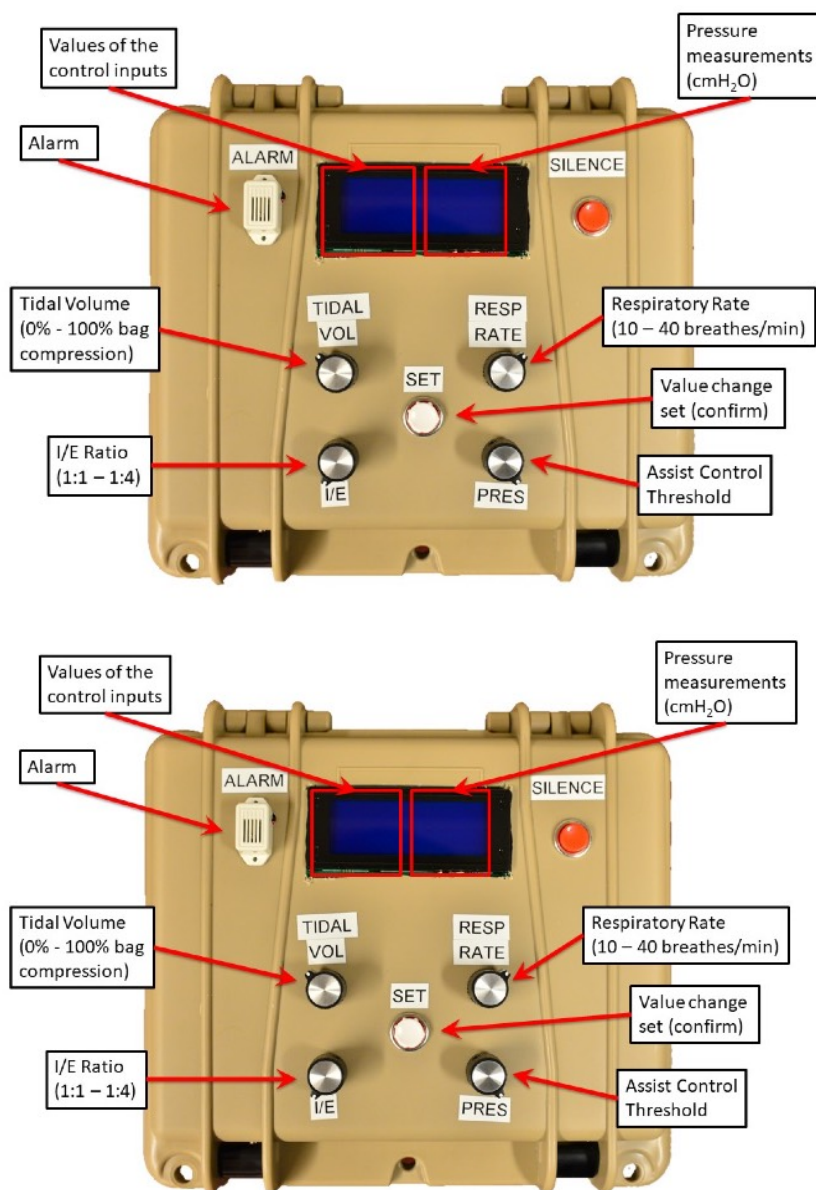

Figure 2. Control the ventilator and read pressure information from the top of the control box.
3. Ensure that all dials shown in Figure 2 are turned counter clockwise to the lowest position.
6. Set the desired *Respiratory Rate*, *Tidal Volume* and *I:E* knobs, as shown in Figure 2, and confirm the values on the display, shown in Figure 3. Press the *Set* button to apply.